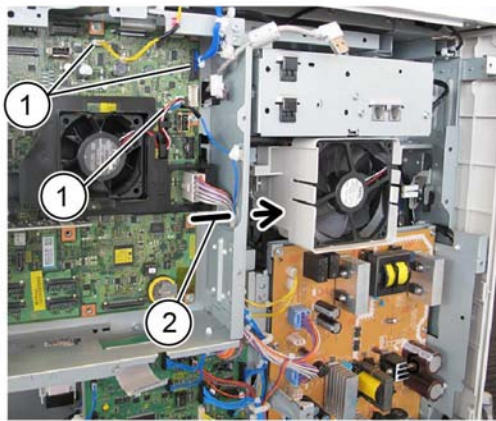

Figure 8 Connectors
11. Disconnect the connectors, Figure 8:
- a. Disconnect the three connectors (1), then release the associated harness clamps.
- b. Pull the harness through the hole in the chassis (2).